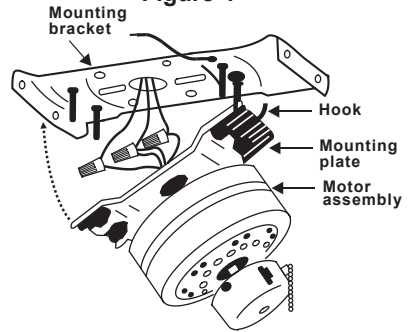

Figure 5
2. LIFT FAN INTO POSITION by hanging the motor assembly onto the hook of the ceiling mounting bracket allowing it to hang freely. (Fig. 5)
3. MAKING ELECTRICAL CONNECTIONS by connecting the black and blue wire from the fan to the black wire in the outlet box. Then, connect the white wire from the fan to the white wire from the outlet box. Last, connect the green wire from downrod to the green or ground wire from outlet box. (Fig. 5)